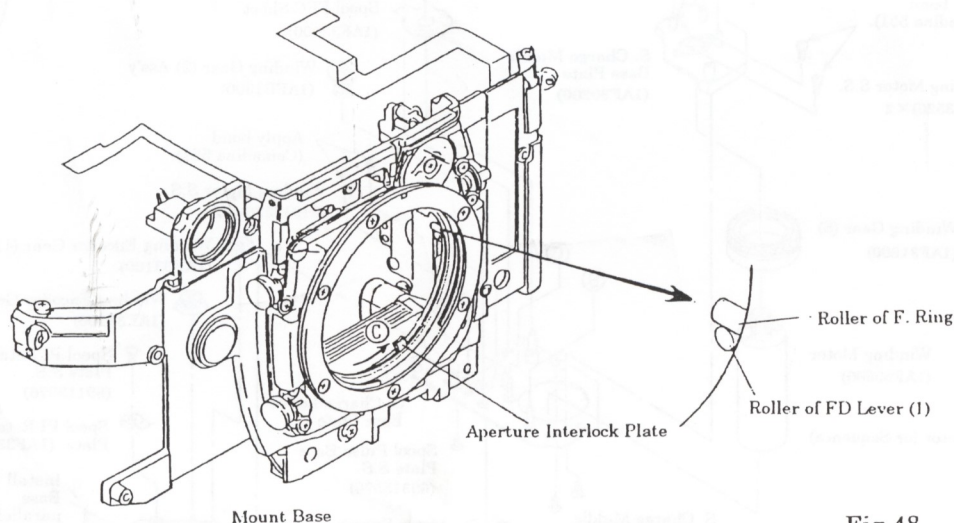

Fig.48
(See Fig. 48)
- 2) Move the Aperture Interlock Plate in the direction of the arrow (C) (to the aperture open position) and while keeping it there, install the F. Base Plate Ass'y (1AFC3300) on the Mount Base.
At this point, make certain that the Roller of the FD Lever (1) and the Roller of the F. Ring are installed in the position as shown in Fig. 48.